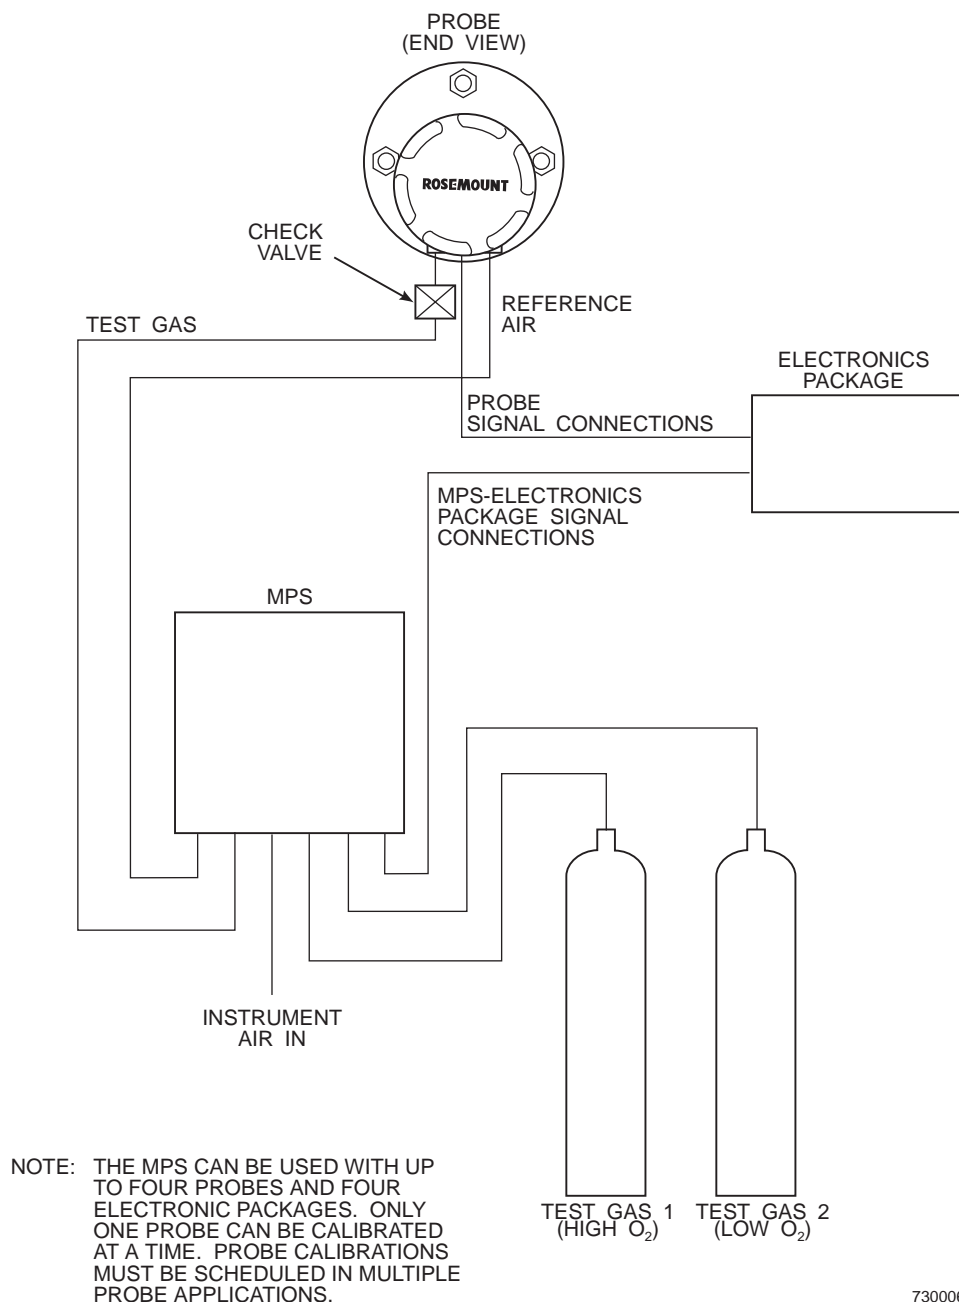

Figure 1-3. Typical Automatic Calibration System
- 1-2. **THEORY OF OPERATION.** A typical automatic calibration setup is shown in Figure 1-3. The MPS 3000 Multiprobe Test Gas Sequencer operates under the control of the CRE, IFT, or digital electronics package. When the electronics package initializes automatic calibration, the solenoid controlling the selected probe is energized. Next, the solenoid controlling test gas 1 (high O₂) energizes allowing test gas 1 to flow to that probe. After the probe measures the oxygen concentration of test gas 1, the gas solenoid is deenergized. An operator selected time delay allows the gas to clear the system. Next, the solenoid controlling test gas 2 (low O₂) energizes and allows test gas 2 to flow to the probe. After the probe measures the oxygen concentration of test gas 2, the gas and probe solenoids deenergize. The automatic calibration is now complete for the probe selected.